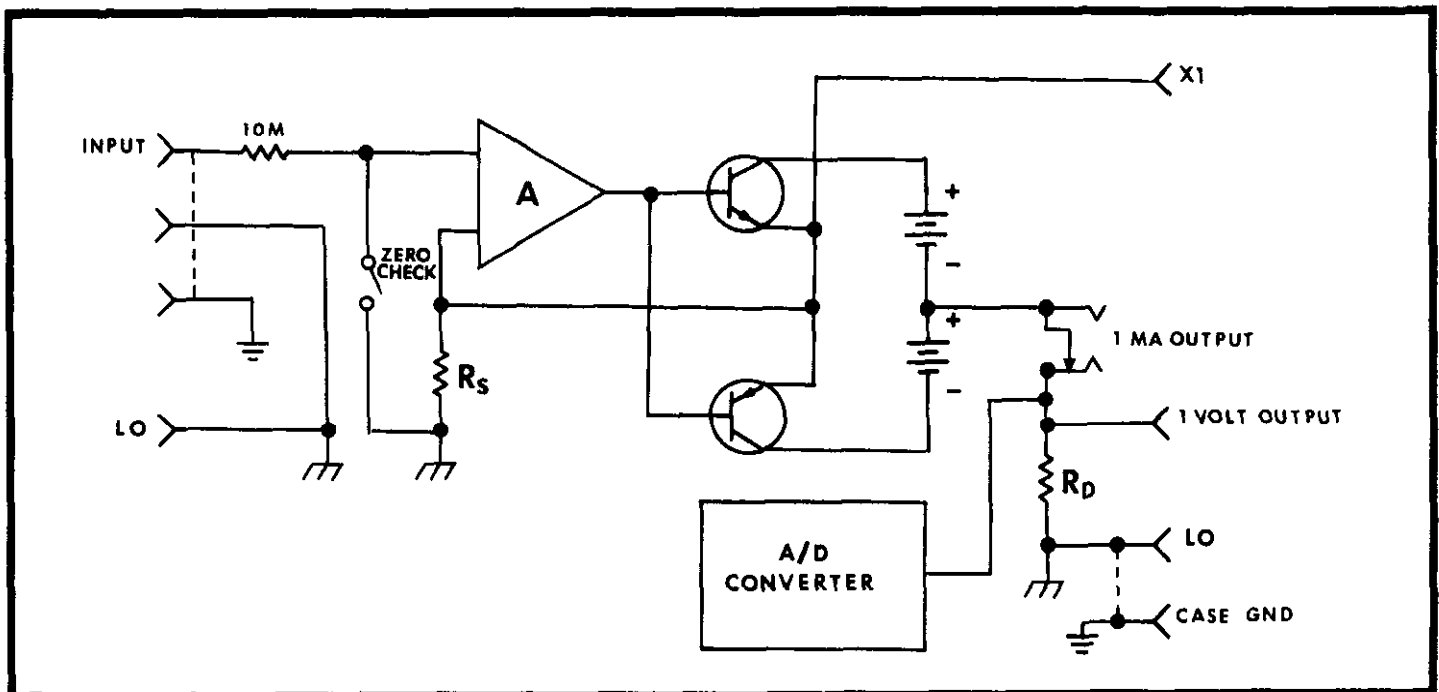

FIGURE 10. Voltmeter Normal Mode.
Figure 10 which shows a block diagram of the Electrometer.
g. The analog output signal for recorder outputs is derived from a resistor divider network represented by resistor R_D in Figure 10.
NORMAL position, an accurately known RANGE Switch resistor (CURRENT Range only) R1202 through R1212 is connected in shunt across the Electrometer amplifier input. Refer to Figure 10 for a block diagram of the Electrometer. The amplifier measures the voltage drop across the Range resistor to determine the input current. The digital readout display and analog outputs are calibrated to indicate the magnitude and polarity of the voltage. The actual current is obtained by multiplying the readout times the current range selected.